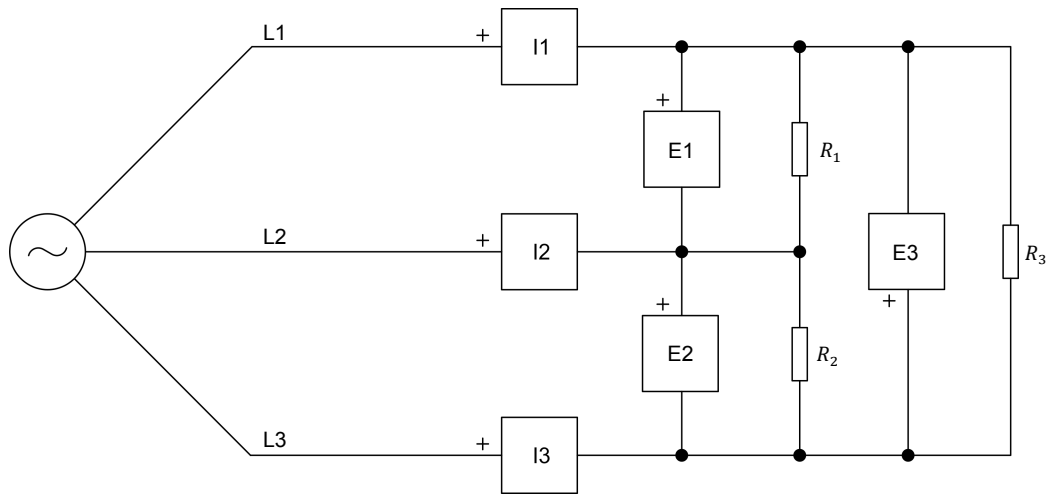

Figure 8. Line current measurements in the delta-connected, three-phase circuit.
41. Reconnect current inputs  $I1$ ,  $I2$ , and  $I3$  of the DACI as shown in Figure 8 to measure the line currents in the delta-connected, three-phase circuit.